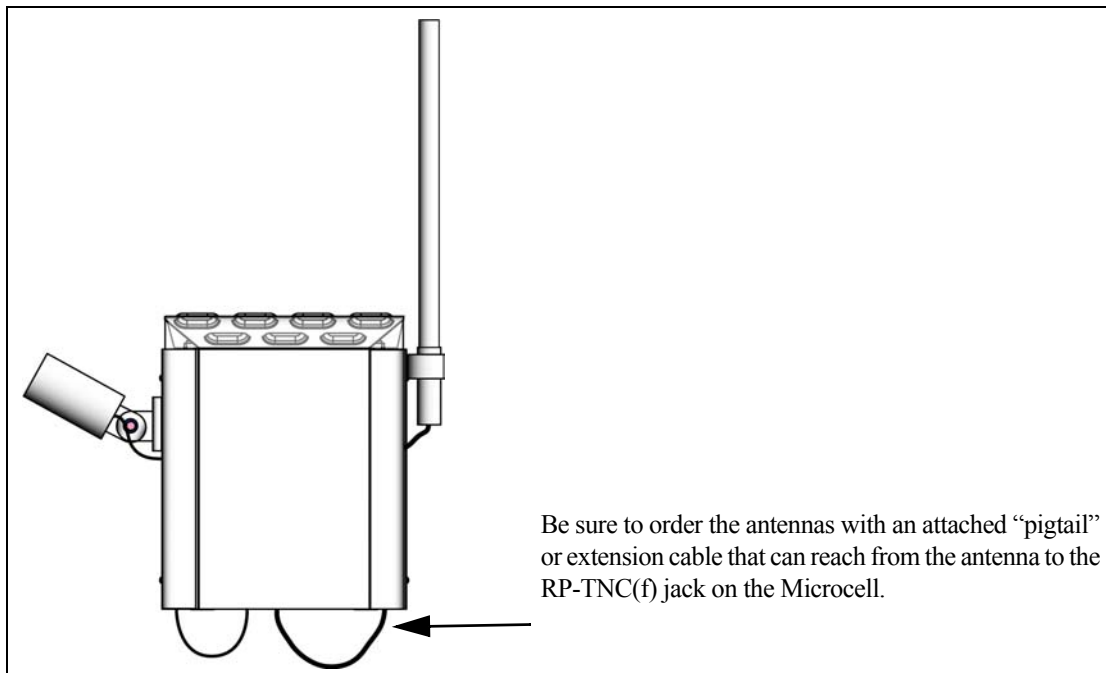

Figure 6— Example Antenna Mounting
Step 6. Mount the antennas to the rear mounting panel, passing the antenna leads through the cable feed-throughs (as shown in Figure 6—Example Antenna Mounting).